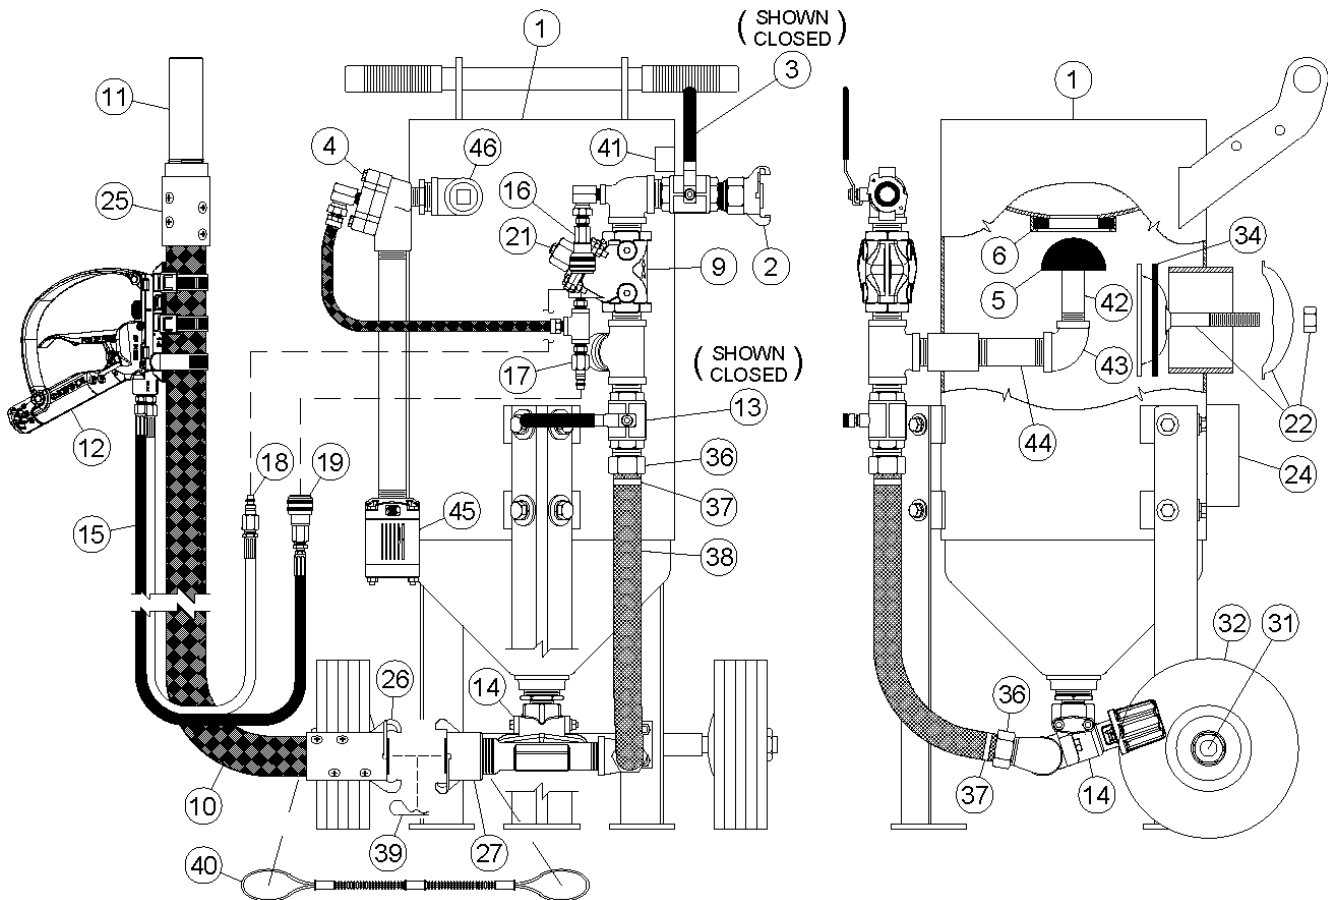

Figure 6.2 Universal Small Pot with pneumatic blast controls
6.1 Abrasive Blaster Setup Procedure (See Figure 6.2)
6.2.3. Close the air inlet ball valve (#3) to disable the blaster and the deadman blast control. The ball valve (#3) is closed when the handle is fully turned to the position shown in Figure 6.2 (handle perpendicular to body). The handle tab will bottom against the ball valve body in the closed position. **Note:** A faulty ball valve may allow air flow even in the closed position. Confirm air flow is stopped by loosening the twinline connection (#18) to check for air flow. Replace faulty ball valves. See Section 8.0 for inspection and maintenance details.